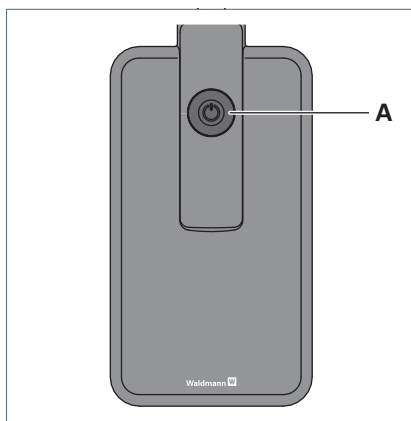

Fig. 5: Key.
- ▶ To switch the luminaire on and off, press the key **A** on the top side of the luminaire head, see Fig. 5.
- ▶ To switch to the dimming mode, press the key **A** and keep it depressed for 10s, see Fig. 5.